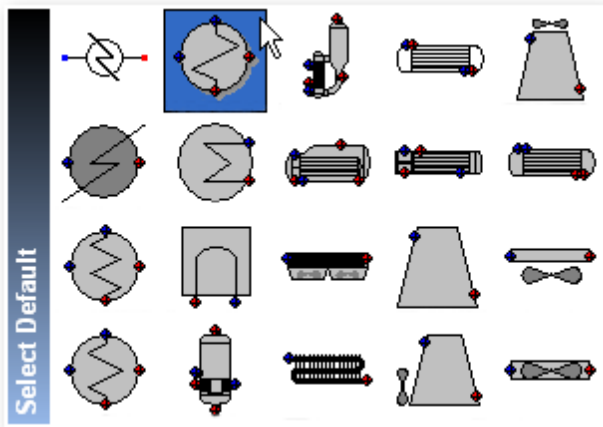

Figure 2: Selecting the two-sided heat exchanger icon
3. Click the lower right corner of the **Heat Exchanger** icon, on the black triangle, to open the sub-palette. Select the two-sided heat exchanger icon as shown in Figure 2. The icon that you clicked in the sub-palette now appears on the main All UnitOps palette to represent the Heat Exchanger UnitOp.